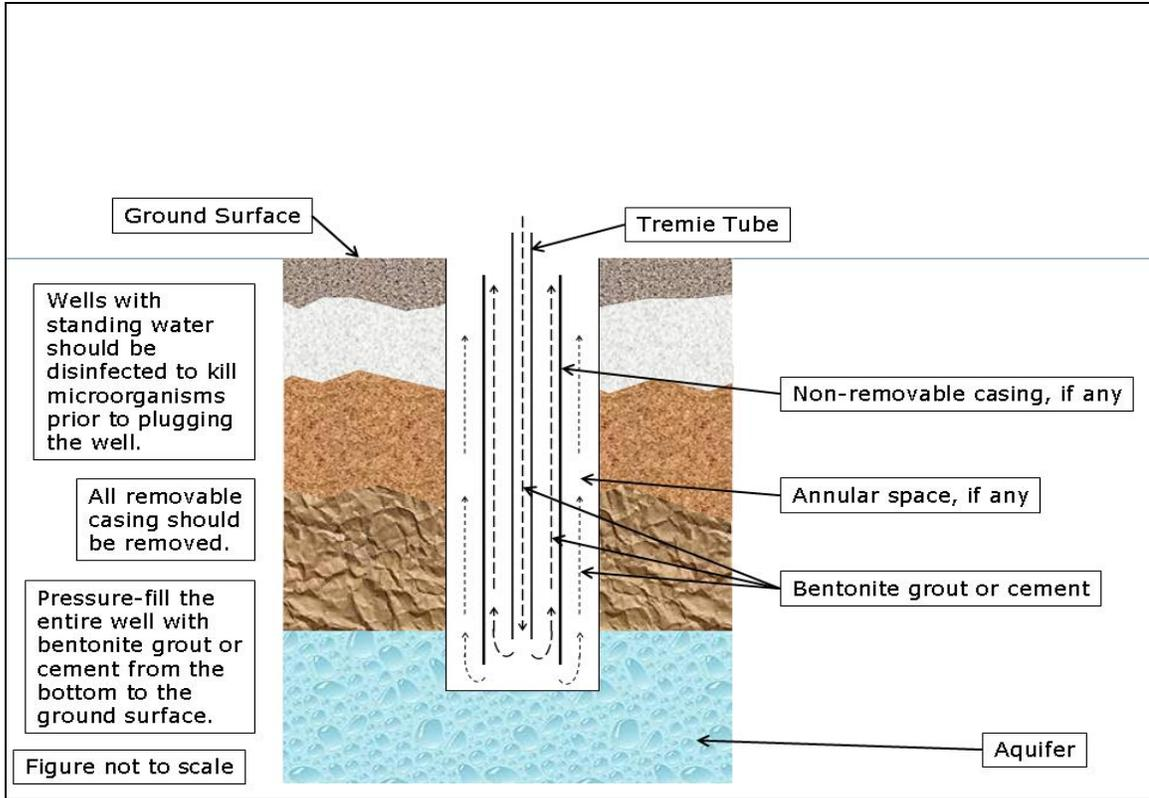

Figure 3. Plugging a Well with Bentonite Grout or Cement Using a Tremie Tube
- If bentonite grout or cement are used, completely pressure-fill the well by using a tremie tube (see Figure 3). When the well is pressure-filled with a tremie tube, some plugging material may also enter any annular space that may exist outside of any non-removable casing.
Using a tremie tube, completely pressure-fill the well with bentonite grout or cement from the bottom of the well to the ground surface (see Figure 3). When the well is pressure-filled with a tremie tube, some plugging material may also enter any annular space that may exist outside of any non-removable casing.
Using a tremie tube, completely pressure-fill the well with bentonite grout or cement from the bottom of the well to the ground surface (see Figure 3).